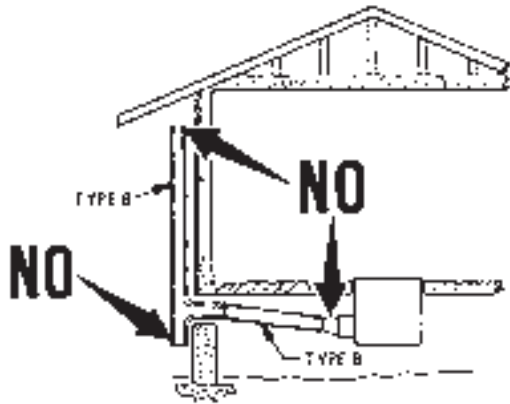

Figure 5
6. Flue pipe **MUST** be as large as the flue collar on the draft diverter. **See Figure 5.**
- The flue pipe **MUST** be sealed. No open "Tees." **See Figure 5.**